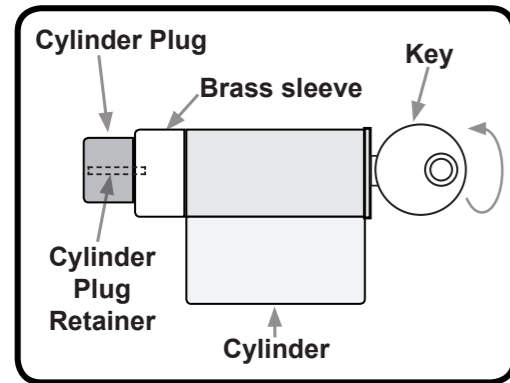

Fig.17
3. Put one of the correct keys (Part No.20) into the cylinder, rotate 45° clockwise and pull the key. This will allow the keys, cylinder, plug and retainer to come out as one as per Fig.17.